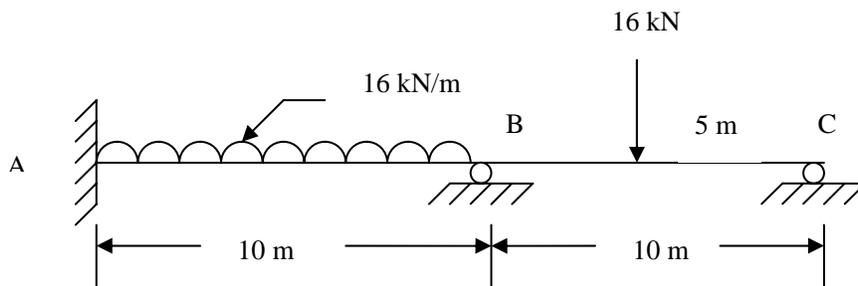

Fig. 7
14. (a) Analyse the continuous beam shown in fig. 7 by flexibility method. Draw BMD.